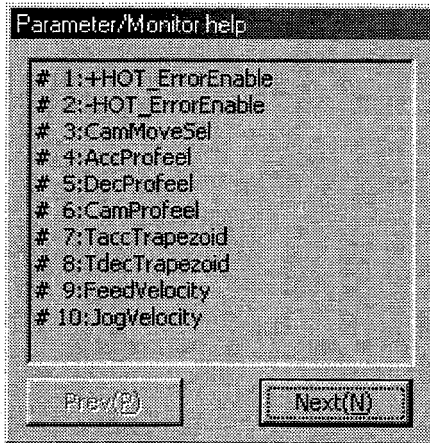

Figure 7.14 "Parameter/Monitor help" dialog box
(5) Parameter/monitor help
In the "Terminal" menu, click "*Parameter/Monitor help (H)*" under "List" to display the "Parameter/Monitor help" dialog box (see Figure 7.14).